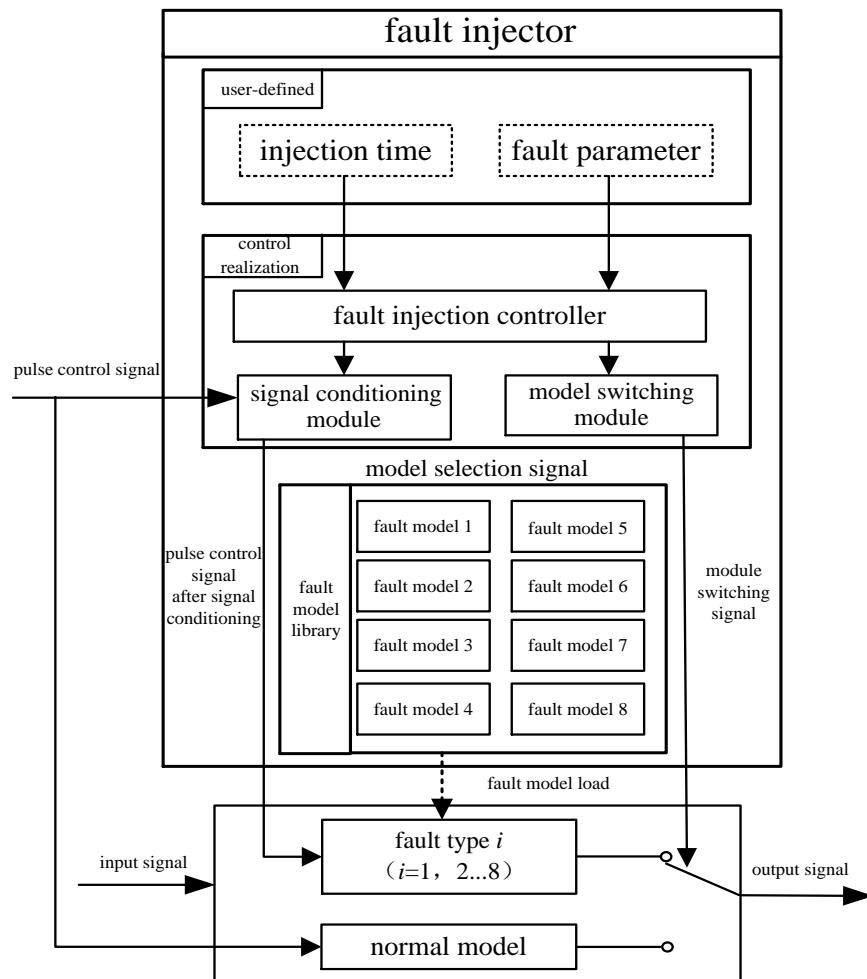

Fig .3 Fault injection method based on mixture of signal conditioning and model replacement
- 2) Fault injection method based on mixture of signal conditioning and model replacement. Based on this method, 3 fault types for traction inverter are realized, as shown in Fig. 3.